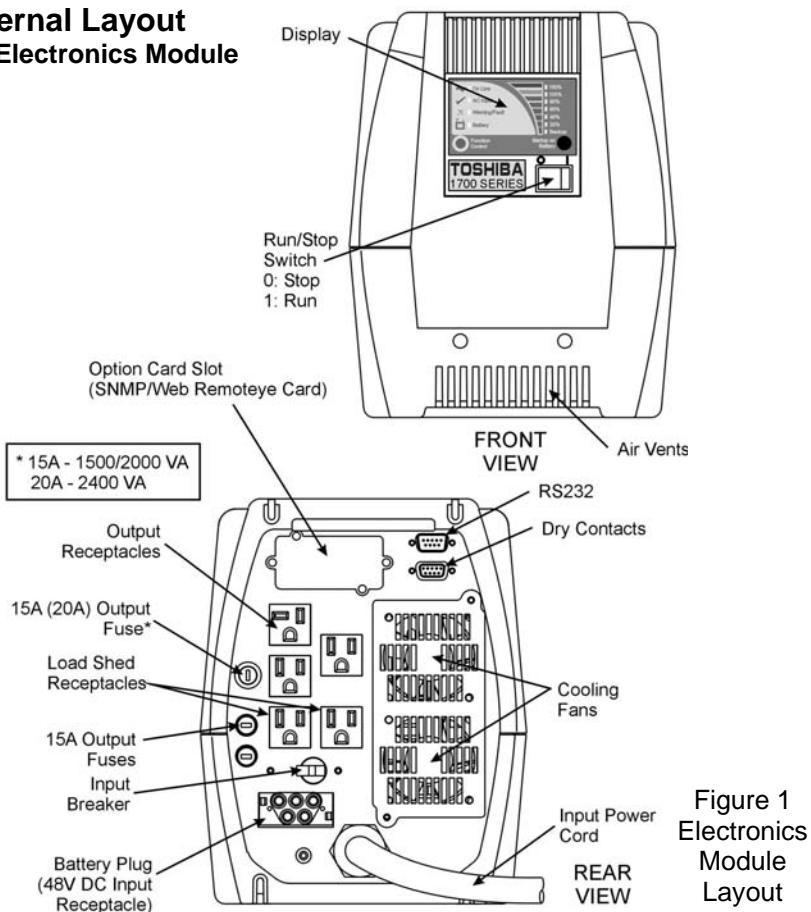

Figure 1
Once the modules have been connected as shown in the preceding section (UPS Connections, page 10) the UPS system is ready to be started. There are two ways to start the system: from AC input power (if present) or from batteries. If not already done, switch the input breaker on (figure 1, page 9). If the "AC Input" LED is lit, proceed on to "Starting when AC power is available". If the LED is not lit, there is no AC power available. If the unit is to be started when AC power is not available proceed to "Starting on DC power."
Step 1: Make sure the RUN/STOP switch is in the STOP position. If the UPS is being started on DC power because the AC power is out of range, the input breaker must be in the OFF position (figure 1, page 9).
Option 2: The other option is to turn the UPS off completely. This means that in addition to the UPS’s inverter shutting down, **all power will be stopped to any equipment attached to the UPS**. To shut the UPS down completely switch the RUN/STOP switch to the STOP position. Then switch the input breaker off (figure 1, page 9). Once the input breaker has been switched off, all the LEDs should turn off. (If the RUN/STOP switch is in the RUN position when the input breaker is switched off, the unit will switch to battery backup mode. The unit will continue to run for as long as the available battery reserves can support the connected loads.)
The 1700 Series includes a load shed function. During battery backup operation, this function allows the load connected to two of the receptacles (figure 1, page 9) to be turned off in an effort to conserve power for more critical loads. The battery level at which these two receptacles will be turned off, or "shed", can be set by the user (see "The Function Control Button", page 17). By default, this feature is configured so that these two receptacles will remain on for the full battery backup time available (no "shedding")